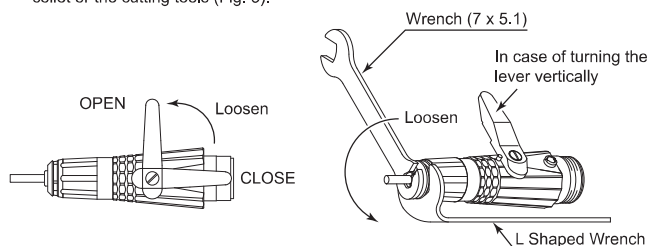
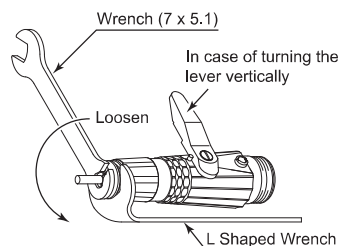

Fig. 4
Fig. 5
- Do not rotate the motor when replacing the cutting tools (when turning the lever vertically toward a arrow in Fig. 4). This will cause damage to the motor or the Attachment.
- ① Turning the lever vertically toward a arrow in Fig. 4 (counterclockwise) to loosen the collet, the cutting tools can be replaced,
- ② Return the lever vertically to close the collet.
* If it is hard to remove the collet or the cutting tools, use the provided wrench. When putting high torque by cutting tools with the large cutting tool diameter, or when turning toward closing the collet, there is a case where the collet or cutting tools can not be put off by hand. If so, align the nose's slit and spindle's wrench position, and put a L shaped wrench to fix the spindle. Set the provided wrench (5.1mm) to the collet, turning the lever vertically. And turn the wrench counterclockwise to release the collet or the cutting tools (Fig. 5).
The lever is OPEN position (Fig. 4).	Turn the lever position to CLOSE (Fig. 4).